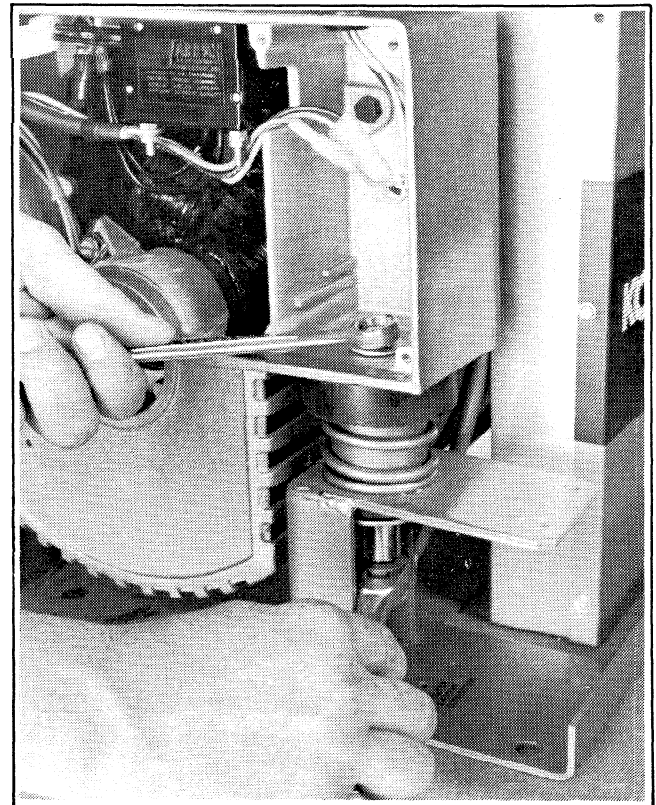

Figure 6-11. Vibro-Mounts
10. Loosen the vibro-mounts (Figure 6-11) and lift the generator from the base.